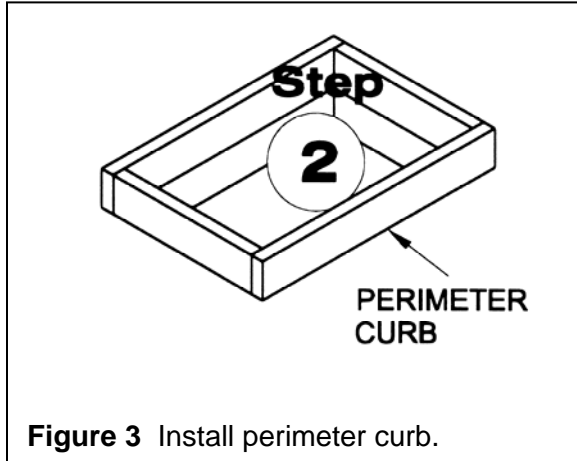

Figure 3 Install perimeter curb.
Step 2. Construct the perimeter curb around the skylight rough opening. Comply with skylight manufacturer's recommendations and building code requirements (see Figure 3).